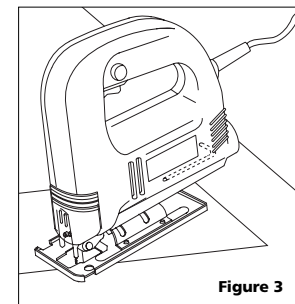

Figure 3
2. Tilt the tool up on the front edge of the base with the blade point positioned just above the workpiece surface (see Figure 3).